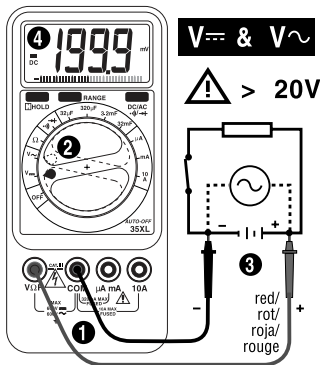

Fig. 1
DC AND AC VOLTAGE MEASUREMENT (See Fig. 1)
❶ Connect test leads as shown in figure 1. ❷ Select $V \sim$ or $V =$. ❸ Touch Probe tips across voltage source (in parallel with circuit). ❹ Voltage value will appear on Digital Display along with the voltage polarity (DC measurements, – shown, + implied).
E • Medidas de tensión CC y CA (vea Fig. 1)
F • Mesure de Tensions CC et CA (voir fig. 1)
- ➊ Connectez les cordons comme indiqué en figure 1.